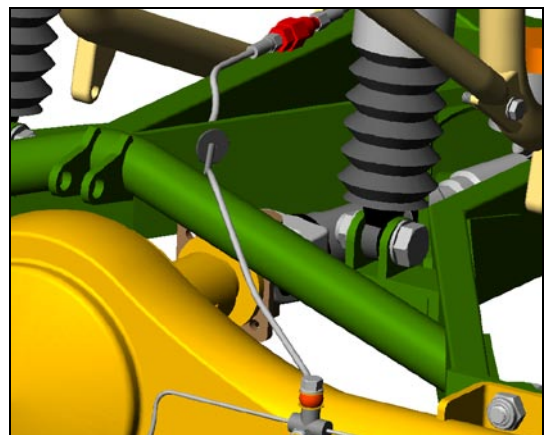

Figure 34
- d. Install supplied braided line (29" L with male end – **NOTE: Make sure it is the 29" line and NOT the 23.5" line- the lines are reversed if it is the 23.5" line**) to residual valve. Route as shown (through grommet and over swing arm cross tube) and connect to brake line Tee fitting on rear axle housing using supplied single banjo bolt and two crush washers. Figure 34